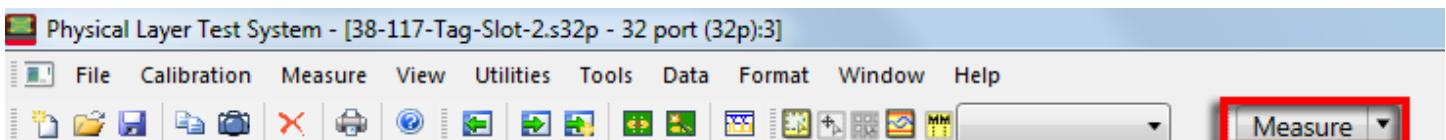

Figure 14 - PLTS toolbar measure
- 16) Perform next measurement. You do not need to create a new measurement for the next cable. Just swap out the cable and click the measure button on the toolbar as shown in Figure 14.